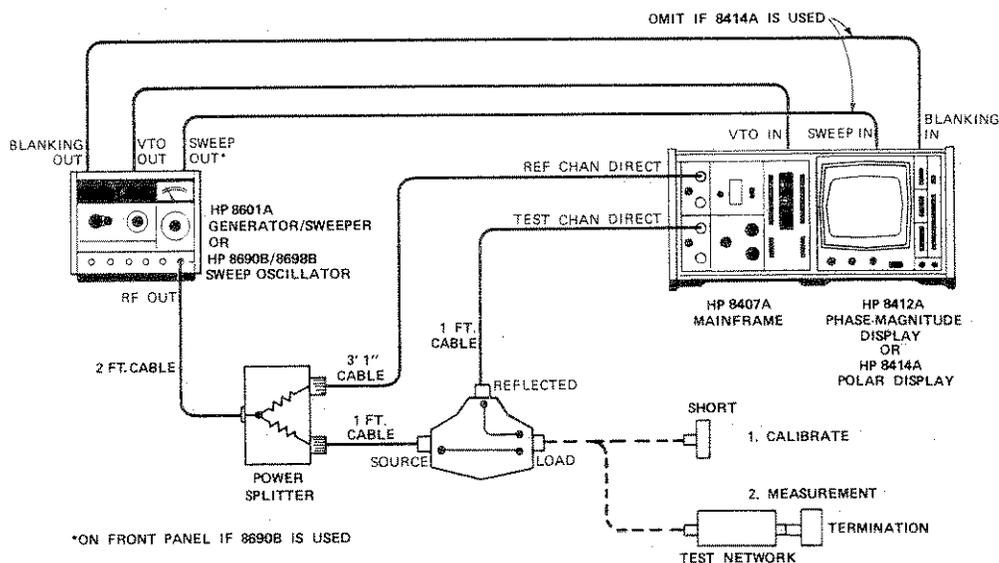

Figure 5. Basic Setup for Reflection Measurements
- a. The HP 11652A is used as shown in Figure 5 when measuring complex impedance, reflection coefficient or return loss (VSWR).
1. Setup the equipment as shown in Figure 5.
Be sure the HP 8721A Directional Bridge is being used as a reverse coupler, not as a forward coupler during a reflection measurement (see Figure 5). This ensures that only the reflected signal will enter the test channel ($E_{\text{REFLECTED}}$).